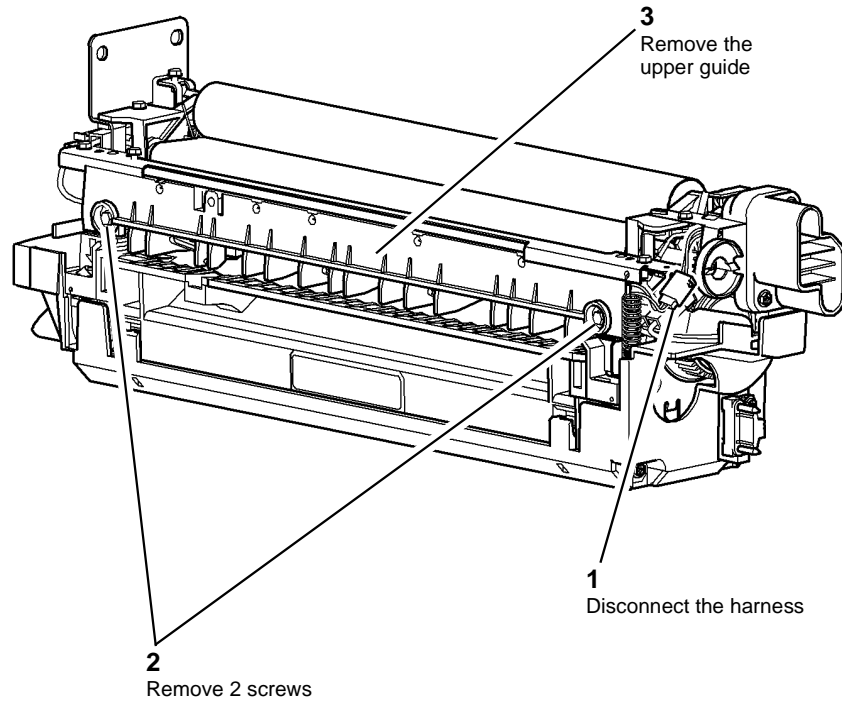

Figure 2 Upper guide removal
3. Remove the upper paper guide assembly, Figure 2.